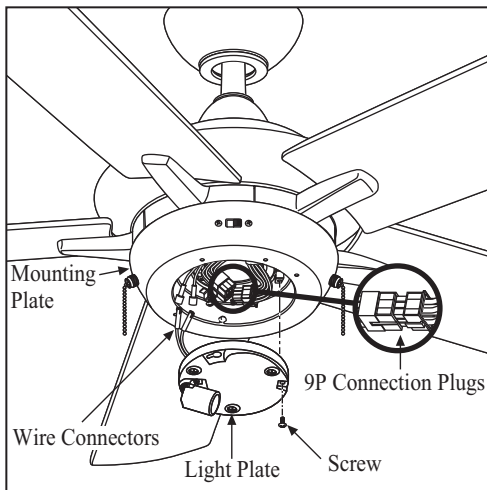

Figure 15
1. Snap together the 9 pin connection plugs. One from the fan motor assembly, and the other from the mounting plate. (Fig. 15)
4. Place the key holes on the light plate over the 2 screws previously loosened, turn the light plate until the light plate locks in place at the narrow section of the key holes. Secure by tightening the 2 screws previously loosened and the one previously removed. (Fig. 15)